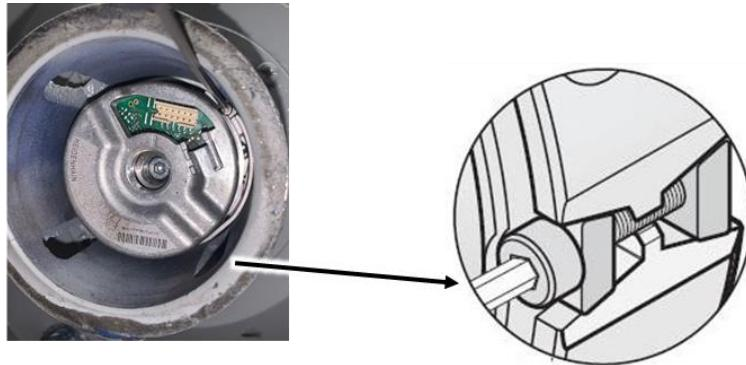

Figure 30
4. Rotate the encoder, it should be very flexible at this time, tighten the encoder locking screw according to 11 in-lbs. by a hex wrench so the encoder outer cannot rotate by hand. See Figure 30.